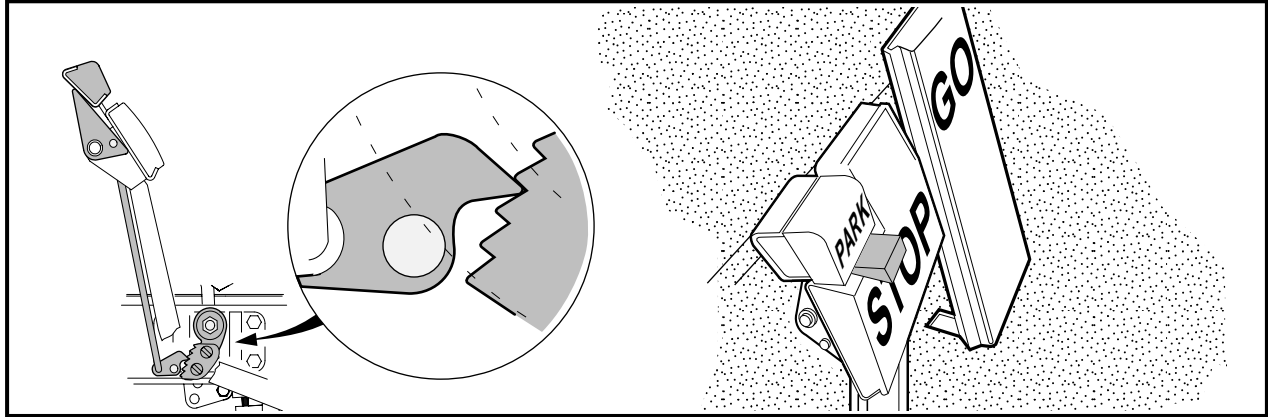

Figure 6-27 Set Park Brake and Insert Wedge
1. Set park brake in the third tooth of the ratchet. Place a wedge between the park brake pedal and brake pedal to prevent the park brake from disengaging while equalizing the brake cables (**Figure 6-27, Page 6-17**).